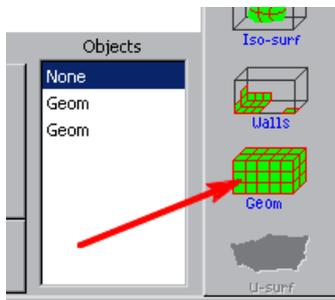
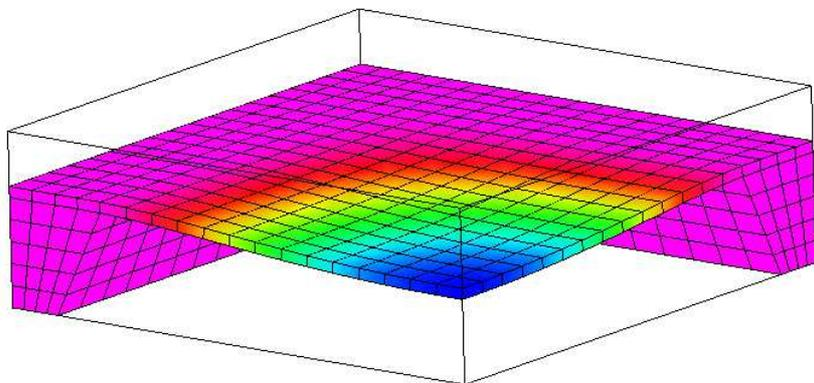

Fig.70. Creating new *Geom* object
Fig.71. The view of the model – outlines created
- In order to retrieve lost outlines of the model create another object of the *Geom* type by clicking the appropriate icon in the vertical toolbar (see Fig. 70). Now a new object is displayed at the end of the list in the *Objects* window. The model itself is depicted in Fig. 71.